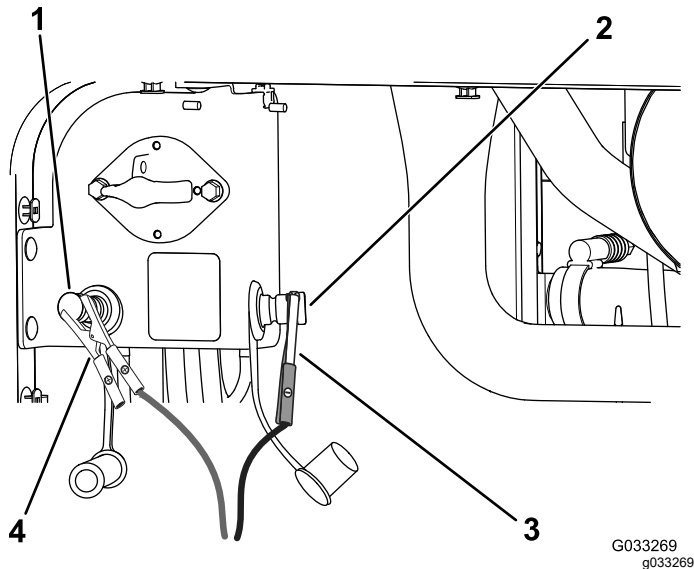

Figure 109
4. Connect the positive (+) jumper cable to the positive jump post (Figure 109).
5. Connect the negative (-) jumper cable to the negative jump post (Figure 109).
7. When the engine starts, have the other person disconnect the negative (-) jumper cable from the negative jump post and then disconnect the positive (+) jumper cable (Figure 109).